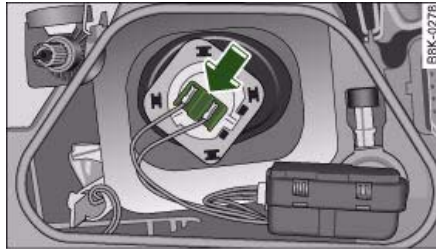

Fig. 265 Bulb holder for dipped headlights
- Press the connector in the direction of the arrow ⇒ fig. 265.